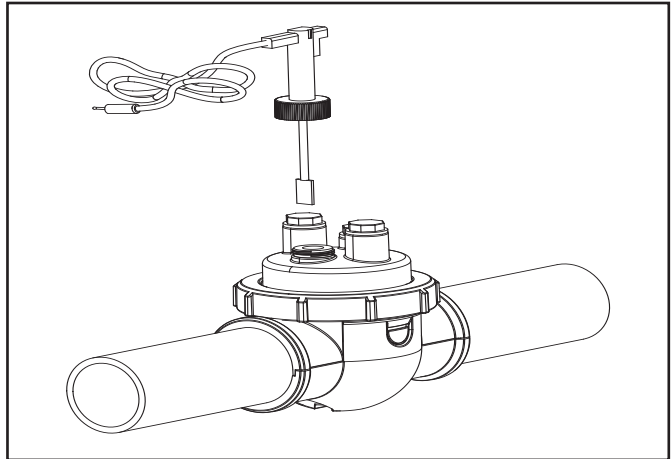

Figure 2. Replacing the Flow Switch
4. Unscrew the flow switch from the pod and remove (see Figure 2).